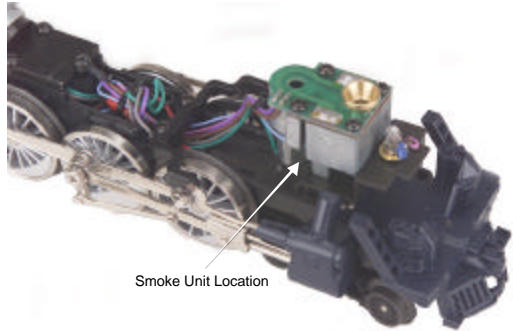

Figure 15
1. Once the boiler has been removed, locate the smoke unit assembly (see Figure 15).